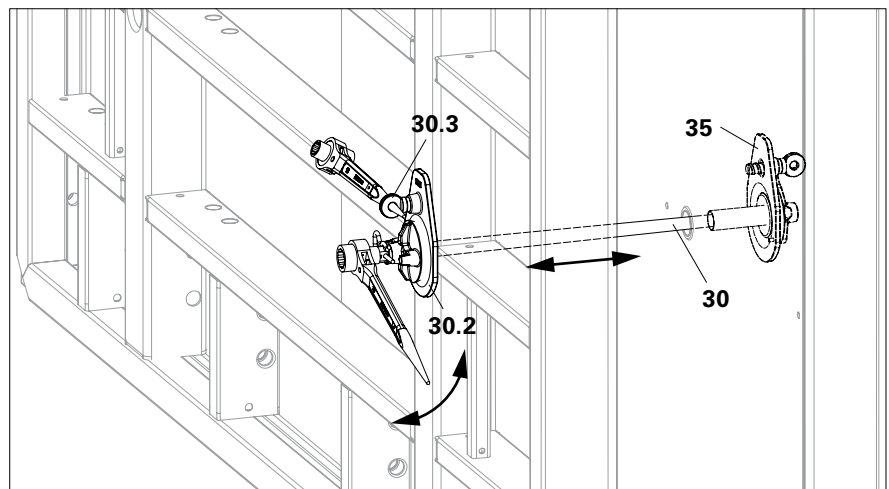

Fig. A5.06
4. Slightly tighten the Ring Bolt (30.3) by means of the Ratchet MX 15 (9), Tie Rod Spanner MX 15 or Scaffold Ratchet (57). (Fig. A5.06 and A5.07a)
(Fig. A5.06 and A5.07b)